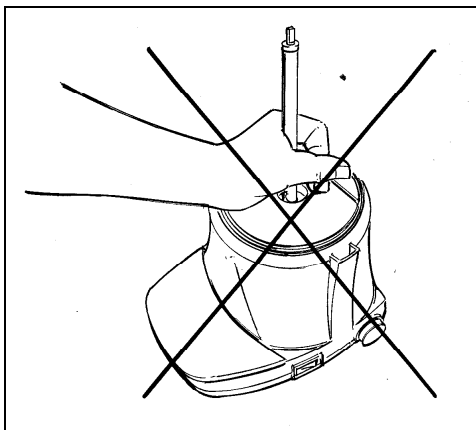
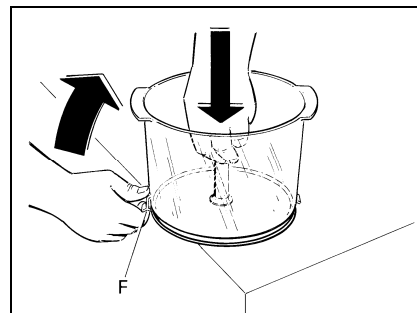

Fig. 7
Fig. 11
Never touch the plate with hands when the container is not positioned in its place (see fig. 7).
-Place the container (A) on a flat surface (fig. 11). Grasp the central shaft with one hand and pull lever F (fig 7) outwards with the other in order to disassemble the bowl into the stainless steel base and the transparent cylinder.